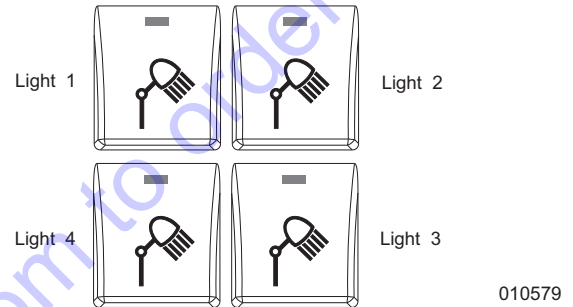

Figure 3-41. Light Fixture ON-OFF Buttons
- See Figure 3-41. Switch lights ON (I) by pressing the light ON-OFF buttons.